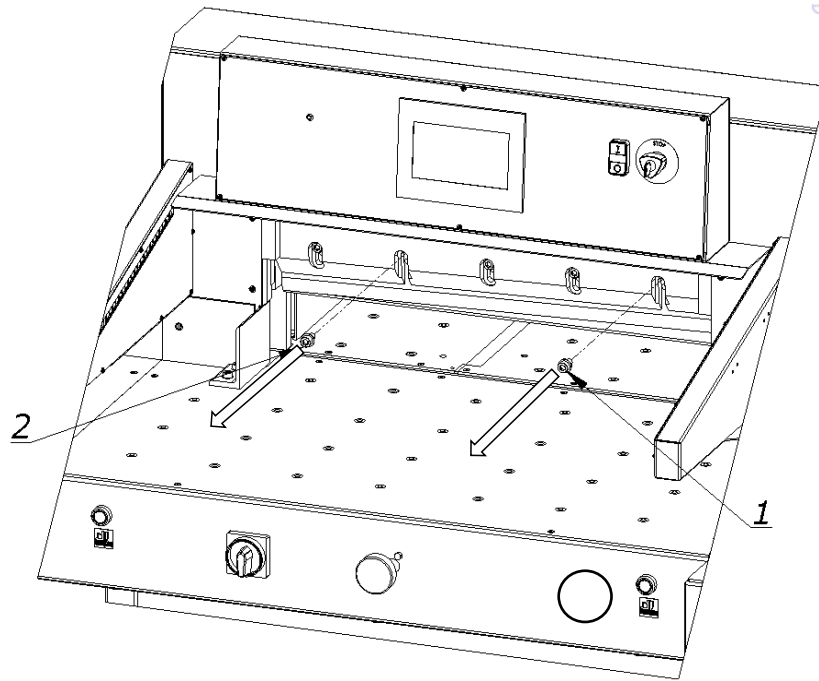
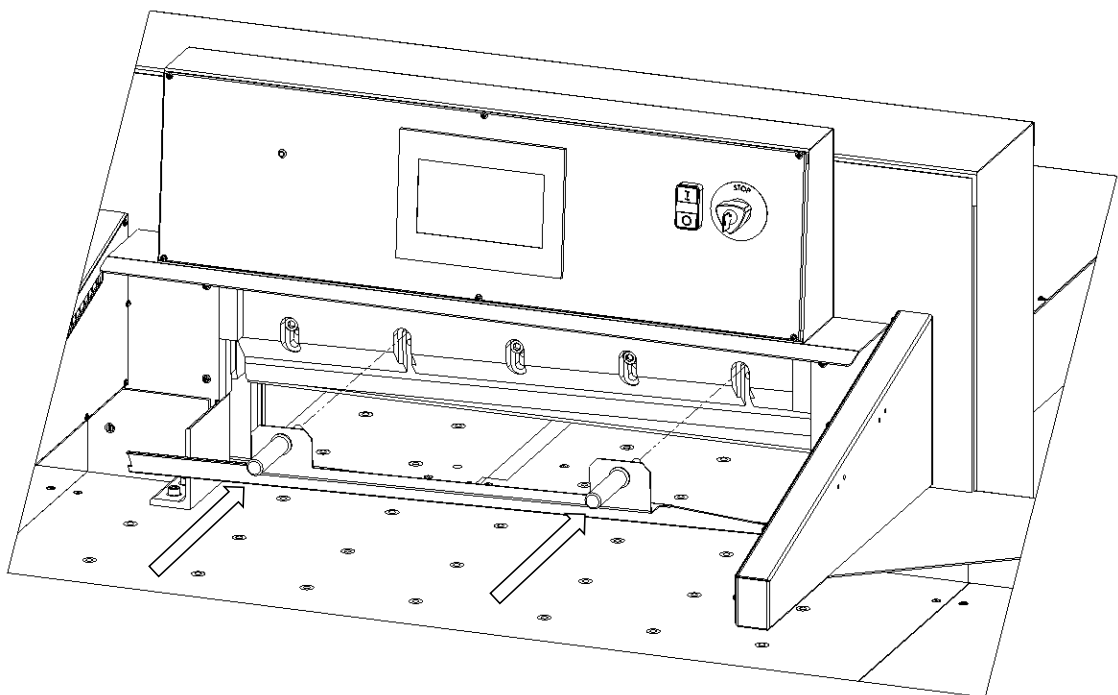

Figure 24.
Figure. 25.
8.1.1.8. Unscrew and remove the mounting screws 1 and 2 (Fig. 24).
8.1.1.9. In place of the screws 1 and 2 (fig.24) removed, screw in the transport handle 1 (fig.25) so that it secures the knife to the cutter bar.